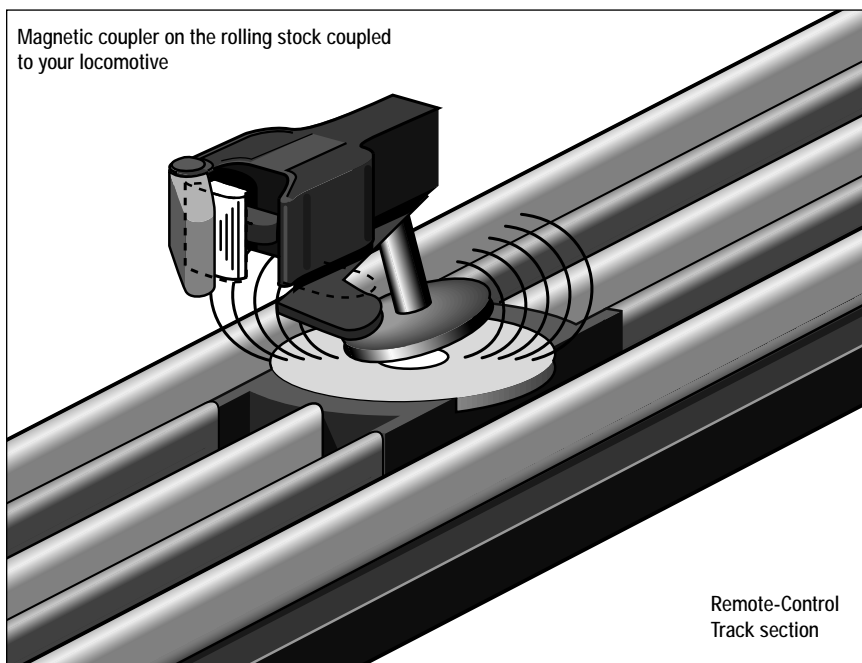

Figure 3. Trigger disc operation
**T**o uncouple rolling stock from your locomotive tender's ElectroCoupler in the non-Command environment, you must rely on a piece of rolling stock equipped with Lionel magnetic couplers coupled directly to your locomotive tender's ElectroCoupler. The magnetic coupler on the rolling stock will then react to the magnetic field generated by a Lionel Remote-Control Track section (available separately, 6-65530 for O gauge; 6-65149 or 6-12746 for O-27 gauge; or 6-12020 for FasTrack layouts). Place your rolling stock's coupler "trigger disc" over the central coil of a Remote-Control Track section and press UNCOUPLE on the controller. As illustrated in Figure 3, the magnetic field pulls the disc downward, and the coupler opens.